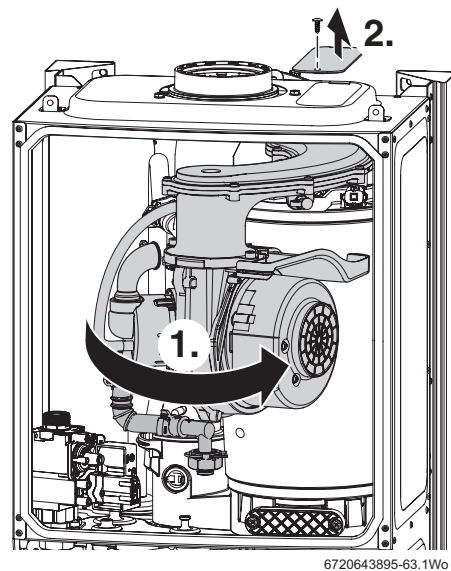
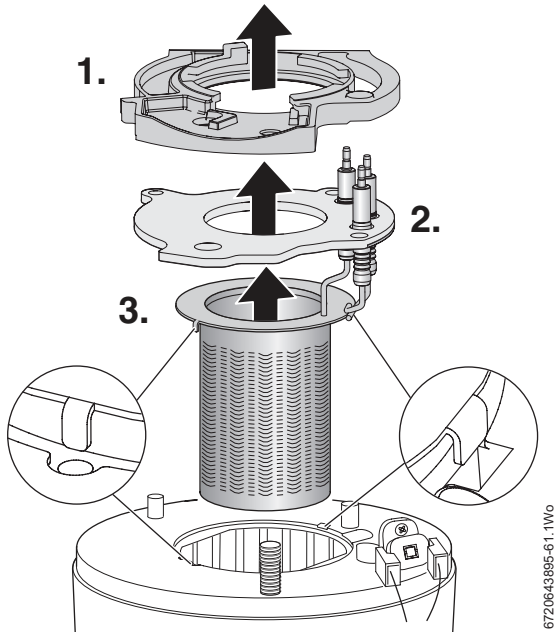

Fig. 86 Rotate air/gas manifold
Fig. 87 Burner removal
1. Refer to figure 86 and rotate fan and air/gas manifold assembly around the top of the heat exchanger until it stops at the lug.
Refer to figure 87
- ▶ Access the heat exchanger flue ways by inserting the cleaning brush (7 716 192 312) through the top access hole in the casing, removal of panel shown in figure 86.
- ▶ Re-assemble ensuring that the lower baffle (2) and the top baffle (1) are refitted correctly.
- ▶ Refer to figure 87 when re-fitting the burner to ensure that it fits centrally within the heat exchanger and location tabs are situated in location holes.